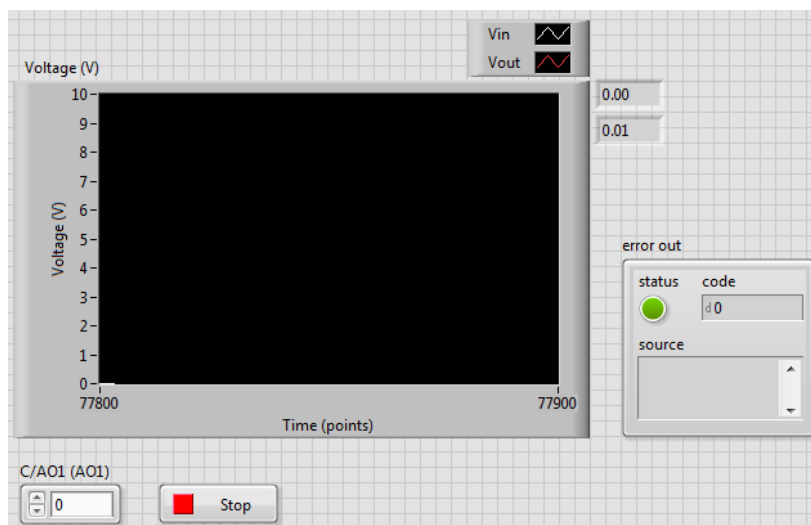
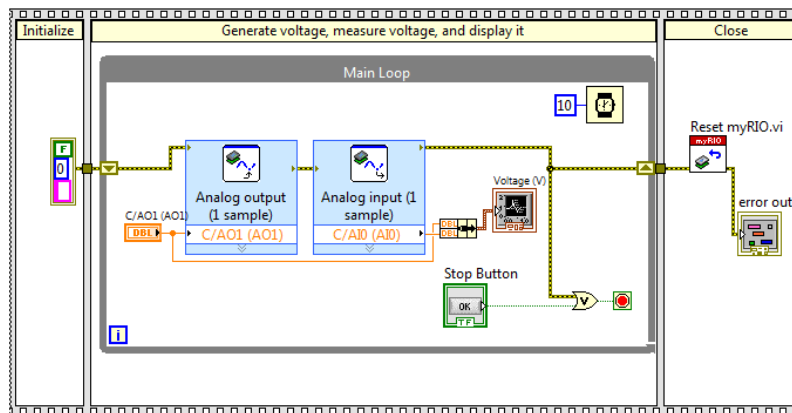

Figure 02.15: how the front panel of your VI might look.
Figure 02.16: how the block diagram of your VI might look.
- 6. Connect both AGND (6) and AI0- (8) to the circuit's ground.
- 7. Connect AI0+ (7) to the node shared by the two resistors—call the resistor you've just connected between AI0+ and AGND your "output" resistor (it should be R_2 at this point).
- d. displays digital readouts of the current voltage output and input, continuously. The front panel of Figure 02.15 and corresponding block diagram of Figure 02.16 show one way of realizing this VI.